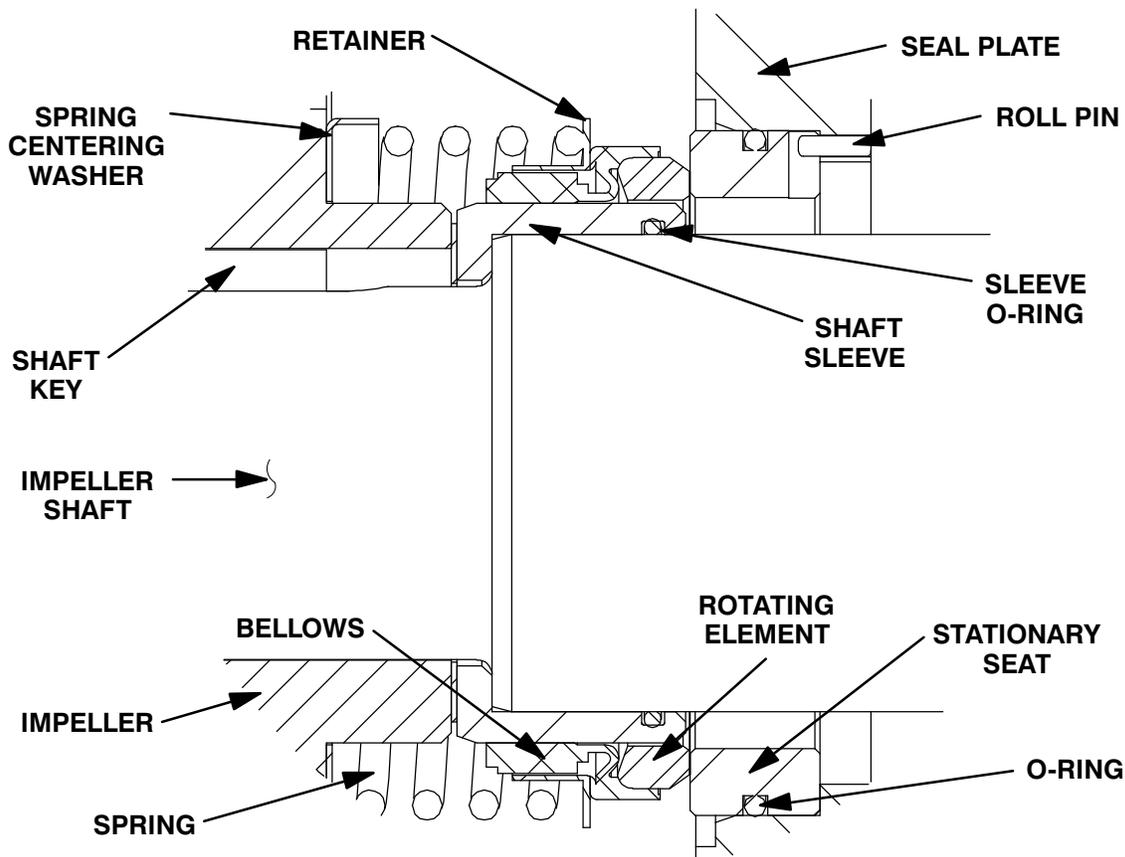

Figure 12. Seal Assembly
To ease installation of the seal, lubricate the stationary seat O-ring, the I.D. of the bellows and the O.D. of the shaft sleeve (3) with "P-80® Emulsion" or water. **Do not** use oil or any substitute lubricant other than water. Apply a drop of light lubricating oil on the finished faces. Assemble the seal as follows, (see Figure 12).